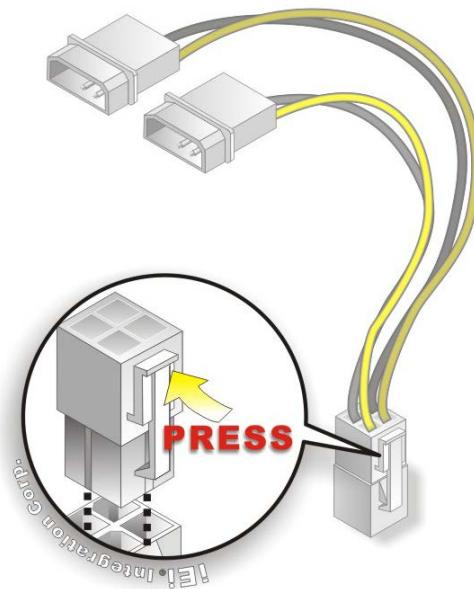

Figure 4-19: Power Cable to Motherboard Connection
Step 2: Connect the power cable to the motherboard. Connect the 4-pin (2x2) Molex type power cable connector to the power connector on the motherboard. See Figure 4-19.